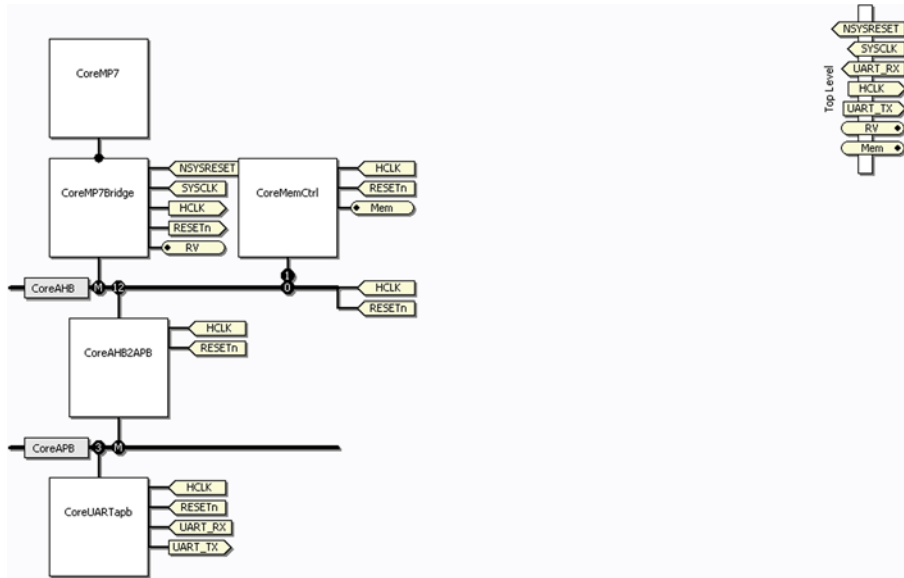

Figure 5-11. CoreConsole Schematic after Connecting CoreUARTapb
- Once completed, your CoreConsole schematic should look similar to Figure 5-11.